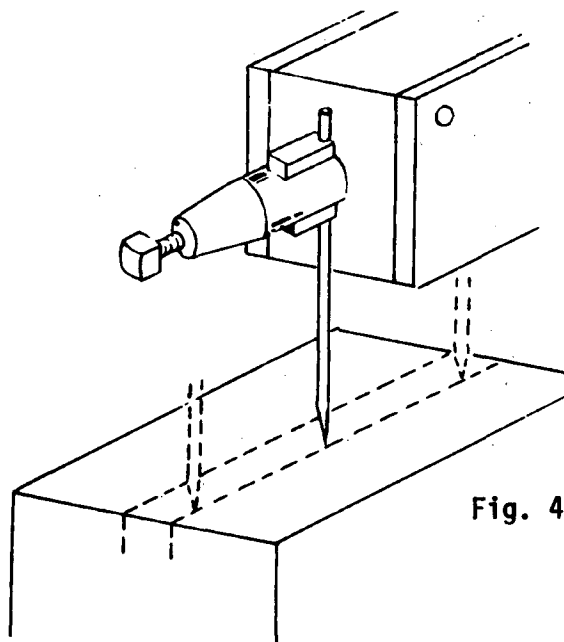

Fig. 4
- c) Check the alignment of the marks with a scribe (Fig. 4) or with the correct tool.